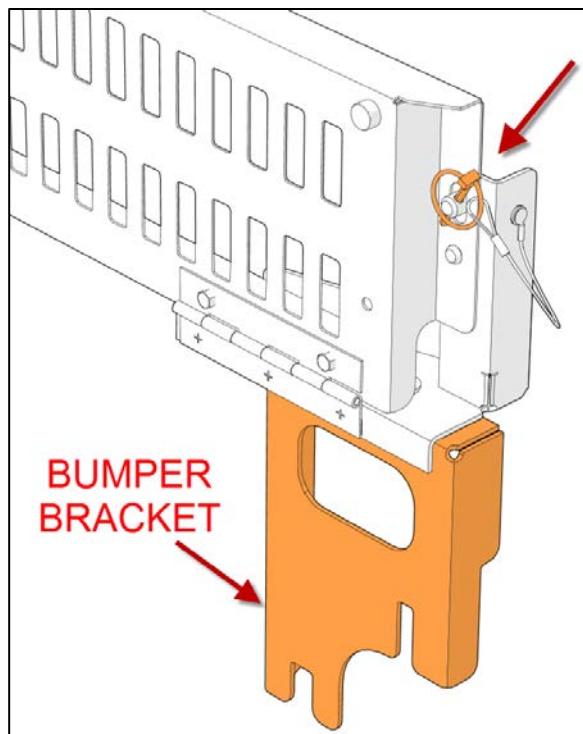

FIGURE 2
2. Lock the position of the bumper bracket with the locking pin as shown on picture Figure 2.